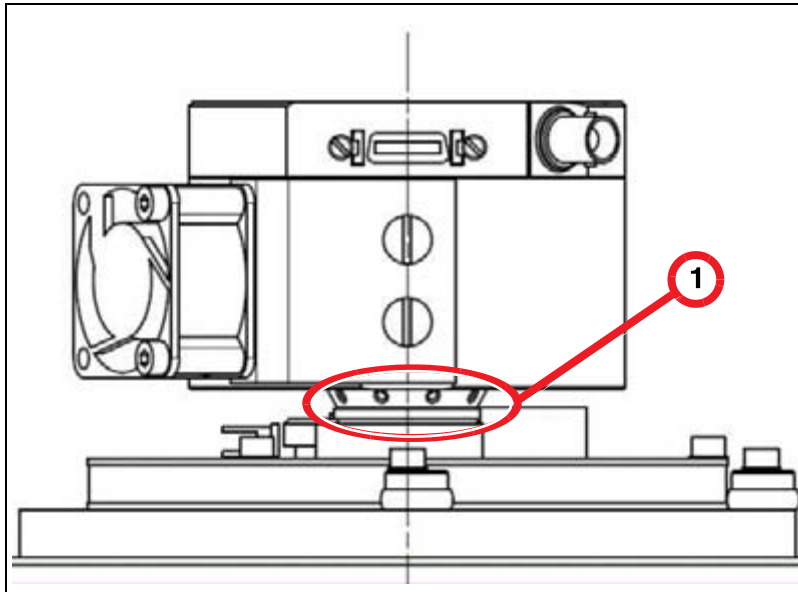

Fig. 5: Image _rotation
5. If the 0 degree position is not correct, remove the I.I. cover, remove the 3 M2 Allen screws \(1/ Fig. 5 / p. 13\) from the camera flange, manually rotate the camera to the correct position, then reinsert and retighten the 3 M2 Allen screws.